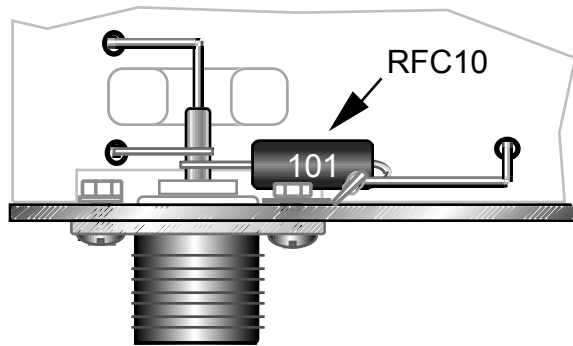

Figure 23
- Locate a large 100- μ H RF choke ("101") for use at RFC10 (0.75" lead spacing). Position the RF choke as close as possible to the rear panel as shown in Figure 23. Solder RFC10 to the center pin of J2 and the grounded solder lug using short leads.